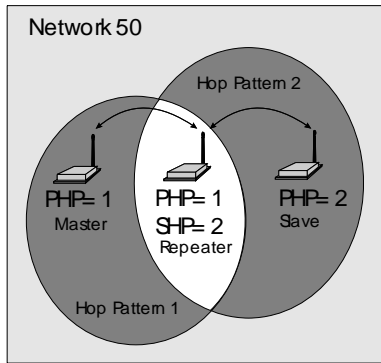
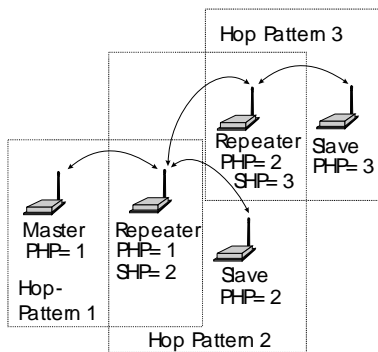

Figure 7 - Repeater Operation
Figure 8 - A Network Utilizing Three Hopping Patterns
5) Repeater. A more precise title would be Repeater/Slave, because a Repeater also has much of the same functionality as a Slave. A station can be connected at the Repeater location and communicate with the Master station. There is no restriction to the number of Repeaters in a network, allowing for communication over virtually limitless distances. The presence of one Repeater in a network automatically degrades system throughput by half. Additional Repeaters, regardless of the quantity, do not diminish system throughput any further. To understand Repeater operation, consider the DataHopper 900 as belonging to two hopping patterns at the same time: The Primary Hopping Pattern and the Secondary Hopping Pattern. In Figure 7, the Master belongs to Hopping Pattern 1, and communicates with the Repeater on this hopping pattern. The Slave belongs to Hopping Pattern 2, and communicates with the Repeater on this hopping pattern. The whole system belongs to Network 50 (i.e., all units must be assigned the same Network Address (S104), which in this case was selected to be 50. Note that Slaves and Master only communicate on their respective Primary Hopping Pattern. Repeaters communicate on the Primary Hopping Pattern when communicating with the Master (or with another Repeater between itself and the Master). Repeaters communicate on their Secondary Hopping Pattern when communicating with Slaves (or with another Repeater between itself and the Slaves). Figure 8 shows another example.